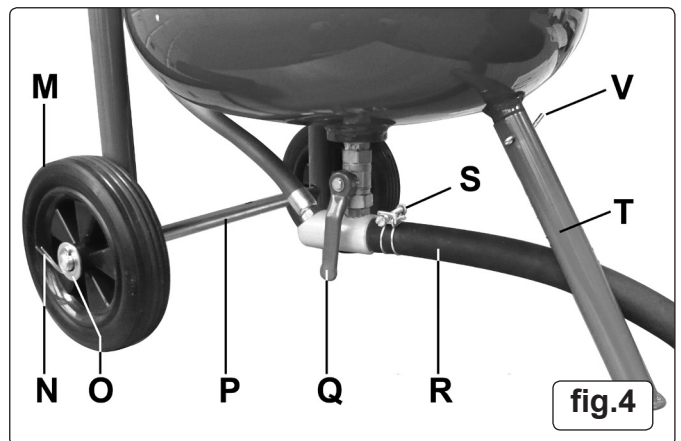

fig.4
- 5.1.3 Referring to fig.4, slide the axle (P) through the holes at the bottom of each handle so that it protrudes equally either side. Slide a wheel (M) onto each end of the axle followed by a washer (O). Fix each wheel by sliding a split pin (N) through the holes in the end of the axle and retain the assembly by bending over the pins.
- 5.2.1 Now lay the tank down on its handles and referring to fig.4, fit the front foot (T) to the spigot welded onto the tank and retain the assembly by putting the split pin (V) through the foot and spigot and bending it over.
- 5.3.1 Referring to fig.4, take the open end of the blasting hose (R) and slide the wire screw clamp (S) over the end of it. Now push the hose fully onto the sand outlet fitting below the sand metering valve and tighten the wire screw clamp to retain it.